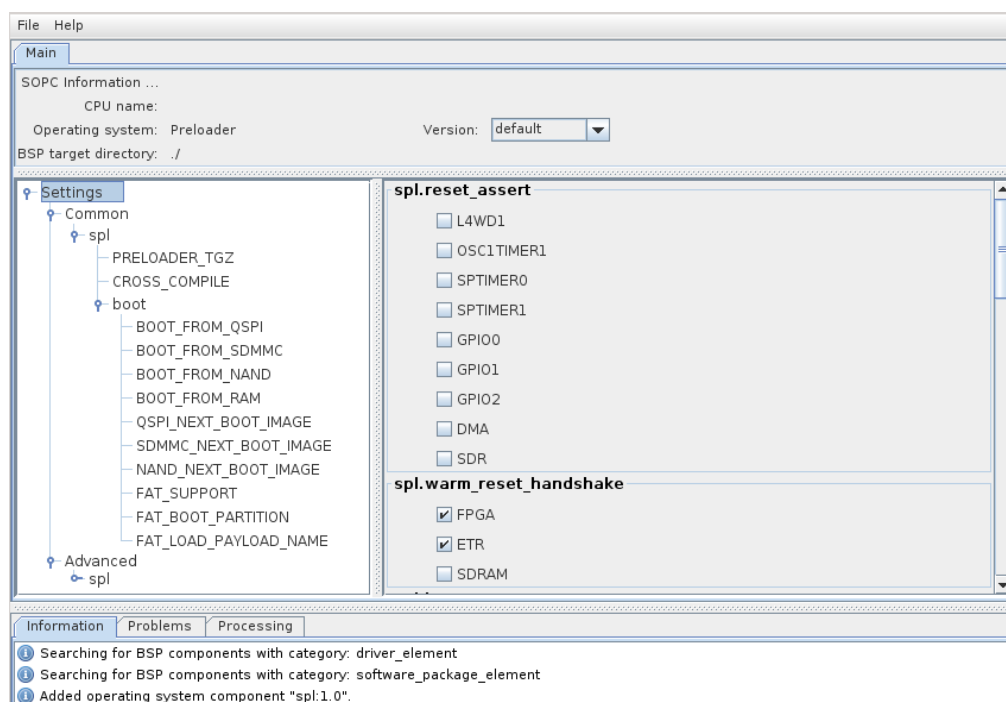

Figure 13-2. Preloader Settings Dialog
- c. Press the “OK” button. You should then arrive on a page with many settings, as shown on Figure 13-2. Take some time to read through them to see what the preloader has the ability to do.
3. On the main settings page of Figure 13-2, we will only need to modify 1 parameter for our design.